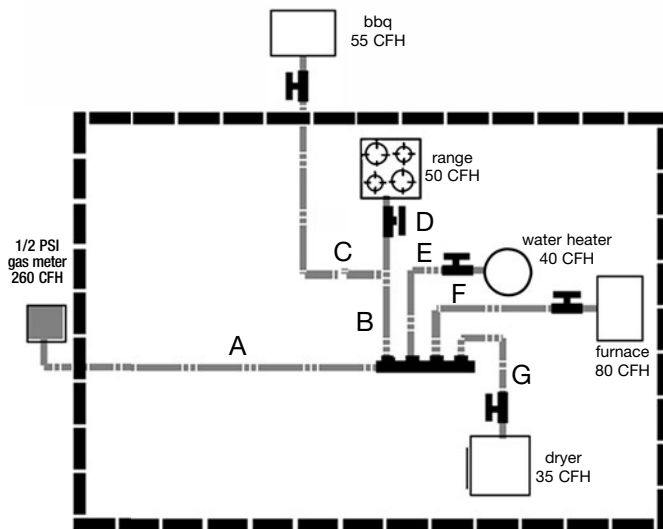

Figure: 3-4
1. The system shown in Figure: 3-4 has a barbeque installed nearby the range. A parallel arrangement was chosen for the medium pressure system (12 inch W.C. with 6 inches W.C. drop) with a single run feeding both range and barbeque in series.